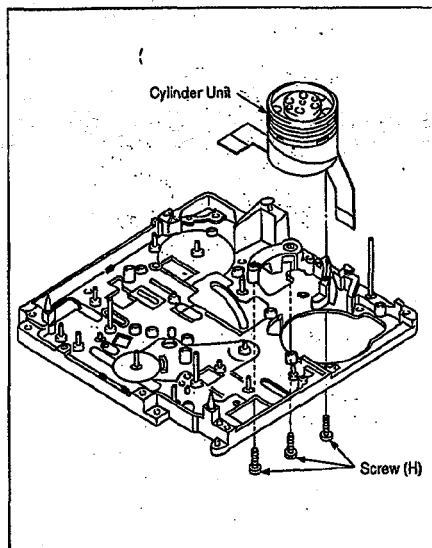

Fig. M7
| 5. Cylinder Unit                  | Fig. M7  | Unscrew 3 screws (H) and remove the Cylinder Unit carefully.Do not touch the Video Head.   |